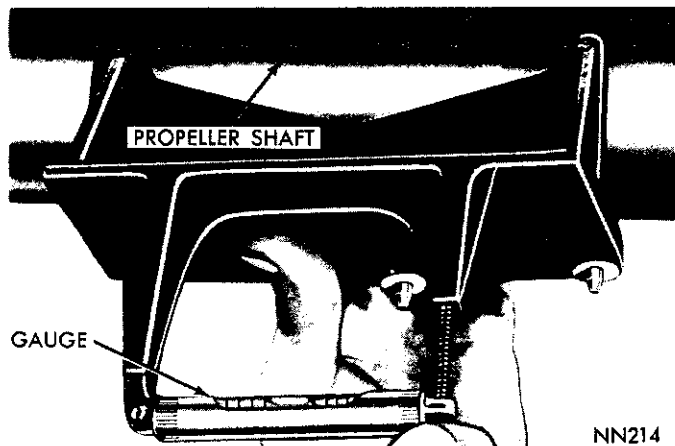

Fig. 6—Measuring Front Universal Joint Angle
- (4) Remove engine adapter SP-5046 and gauge SP-5060 from flange adjacent to the vertical wall of oil pan and separate the gauge from engine adapter.
(5) With gauge SP-5060 adjusted for the correct engine angle reference, position gauge SP-5060 squarely and firmly along underside of the propeller shaft (Fig. 6). Make sure Veeway is in alignment and that both adapter pins are contacting propeller shaft. Be sure arrow on gauge is pointing toward the front of car.